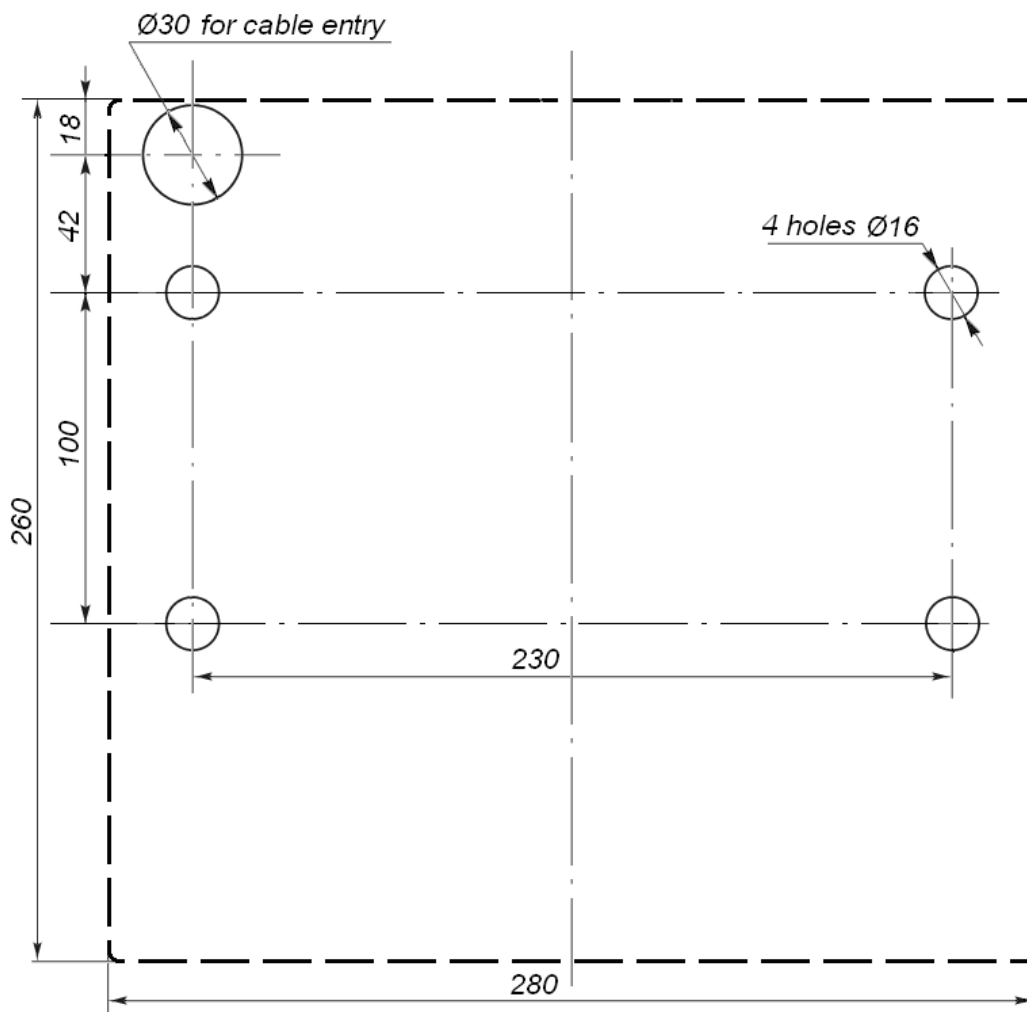

Figure 9. Anchor bolts position and cable entries for the housing installation
- 2 Make the holes for anchor bolt sleeves for the turnstile housing installation (Fig. 9).
- 3 Insert sleeves for anchor bolts into the holes so that they do not stick out above the floor surface. Set up the housing and fix it with the M10 bolts using the S17 socket wrench. Put the plastic plugs (14) in their places.
If you lay out cables under the floor surface, make an electric raceway to the cables laying zone of the turnstile housing (option 1 or 2 in Fig. 9). Fix the housing after laying the cables in the electric raceway and inside the turnstile housing.